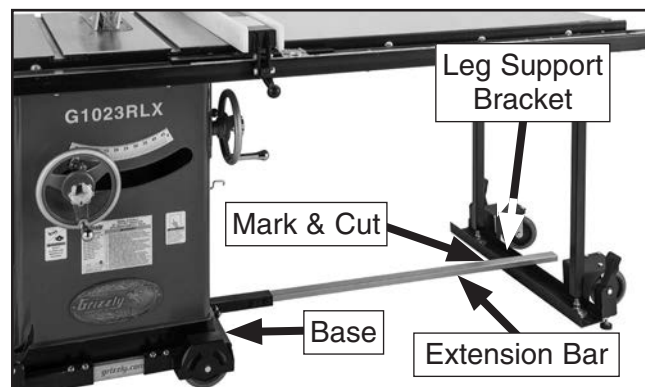

Figure 9. Extension bar positioned between base and leg support bracket.
9. Slide extension bar into adapter bracket to determine if extension bar will fit between base and leg support bracket (see **Figure 9**).
- If extension bar *does* overlap leg support bracket (as shown in **Figure 9**), then it is too long and must be cut to length. To do this, mark and cut bar exactly where it crosses support bracket. Leave enough length so both ends of bar engage bolts in adapter bracket and extension bar bracket.